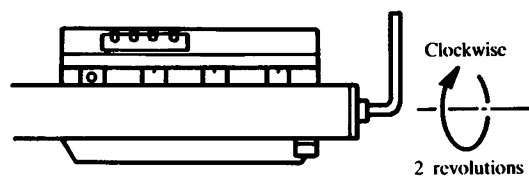

Fig. 7
- (2) Tighten the bolt on the right end of the rail until you feel heavy with the bar wrench (after you turn it about two round). (Refer to Fig. 7)